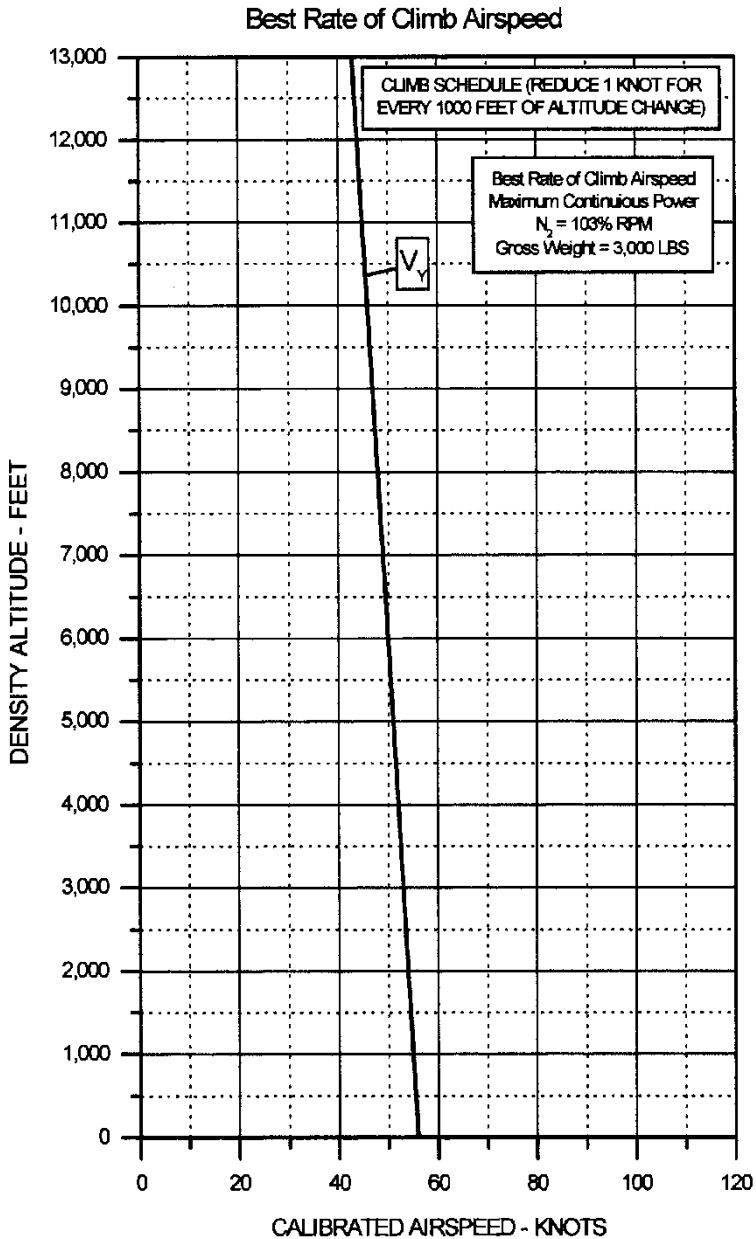

Figure 4-12. Best Rate of Climb Speed
1. The Best Rate of Climb Speed chart (Figure 4-12) shows the optimum climb speed (calibrated airspeed versus density altitude) for any given density altitude.